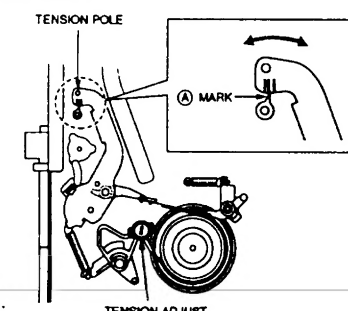

Fig 25.
- 3: Confirm the distance between the three marks (lines) on the TENSION ARM and the (A) mark on the MECHA. CHASSIS so that the (A) mark aligns with the right edge of the centre line on the TENSION ARM as shown in Fig 25.